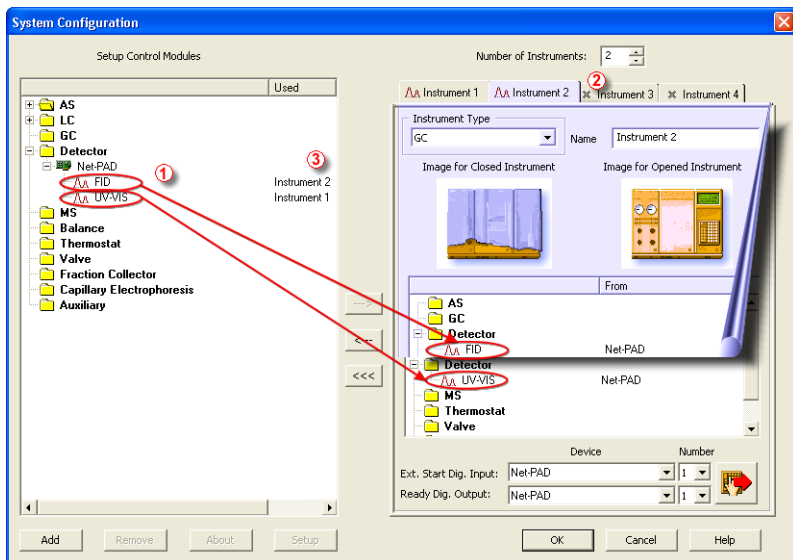

Fig 12: System Configuration – multiple instruments
When measuring on multiple instruments using only a single **Net-PAD** to gather data, rather than dragging the entire **Net-PAD** icon from the *Setup Control Modules list* ①, drag the individual detector signals (**FID**, **UV-VIS** in this case) to separate *Instruments* ②, see **Fig 12** on pg 16. The *Instrument* to which the particular signal is connected is listed to the right ③ of the detector name in the *Setup Control Modules* section.